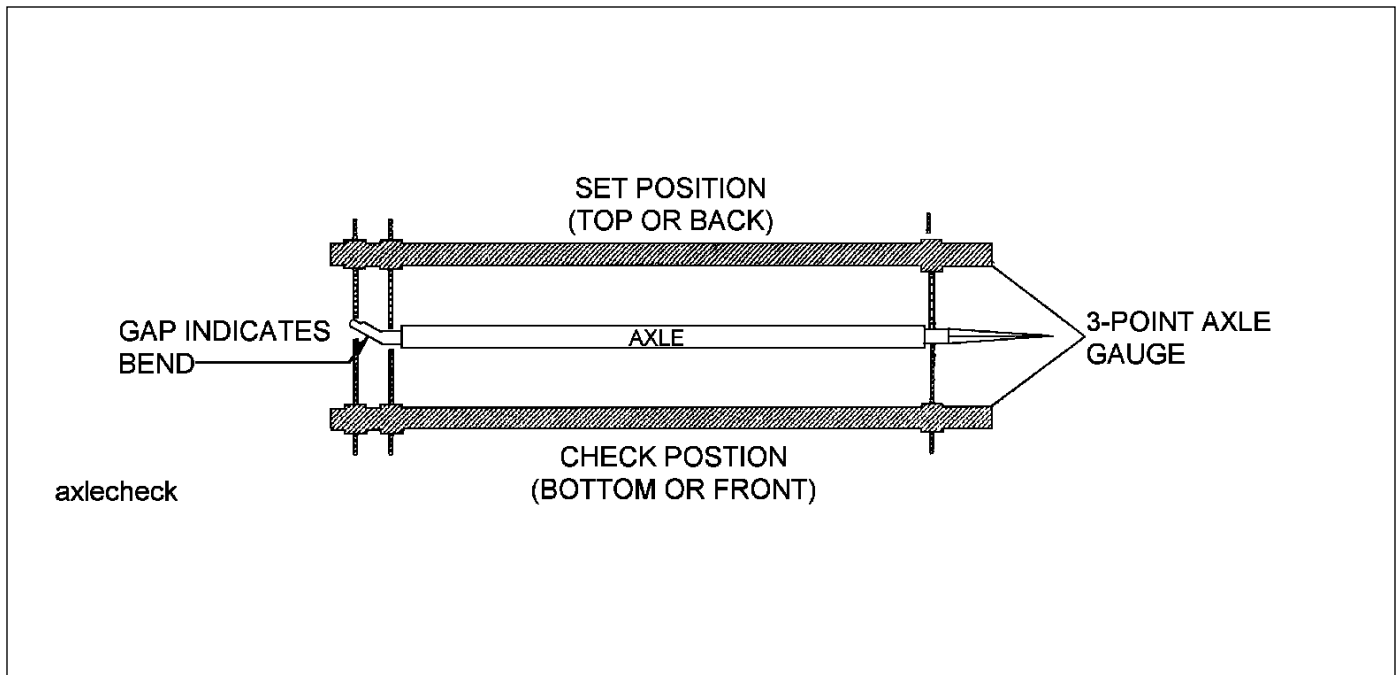

Figure 4-5: Checking Axle for Bend
2. Place a 3-point axle gauge against the front side of the axle, and adjust each axle gauge point to the axle. (Double point end against the inner and outer wheel bearing surfaces of the spindle being checked and the other point on the inner bearing surface on the other spindle) **(See Figure 4-5.)**
3. Move the axle gauge and place against the back side of the axle. If either of the points of double point end fails to touch the axle surface, a bent spindle is evident. A point gap of .015" or more is considered excessive tire “toe” and the axle must be replaced **(See Figure 4-5.)**